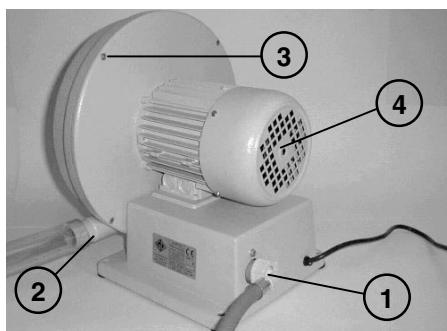
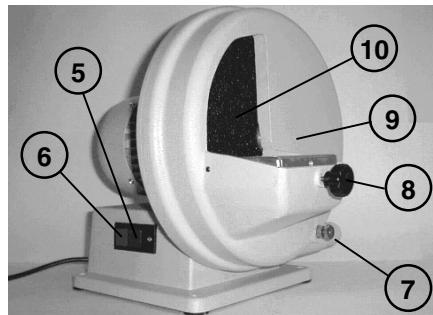

Fig. 1
Fig. 2
- a) connect the water supply hose to the threaded connector (1, Fig. 1) located on the rear of the appliance - TRIM-1 models only;
- b) the residual water drain hose on the relevant connector (2, Fig. 1) - TRIM-1 models only - inserting the other end of the hose into a decanting tank; or
- c) a suitable suction system (we recommend the AIR-BOX DE GIORGI system) on the relevant connection (2, Fig. 1) - TRIM ECO DISK models only;
The appliance is set into operation by pressing pushbutton "I" (5, Fig. 2).
Remember to switch the appliance OFF after use by pressing pushbutton "O" (6, Fig. 2).
The appliance is designed for use in dental laboratories. The plate (9, Fig. 2) is used as a rest for the workpiece and may be inclined in three positions ($90^\circ \pm 10^\circ$) thanks to the presence of three alternative holes in which to tighten the positioning knob (8, Fig. 2).
- when working with model TRIM ECO DISK you must use a suction system to exhaust machining dust by making a connection to the appliance dust outlet (2, Fig. 1). We recommend the use of the AIR-BOX DE GIORGI suction system.
- a) Start pushbutton (5, Fig. 2)
- b) Stop pushbutton (6, Fig. 2)
Setting the appliance into operation automatically starts the flow of water from the inlet connection (1, Fig. 1); the flow rate can be adjusted by means of the valve on the front of the appliance (7, Fig. 2) (model TRIM-1 only).
- d) remove the worn grinding disk (10, Fig. 2) (the grinding disk can also be inverted so that the rear face can be used), fit the new disk or invert the original one and tighten the screw at the front while holding the motor shaft with the Allen key; refit the disk guard.